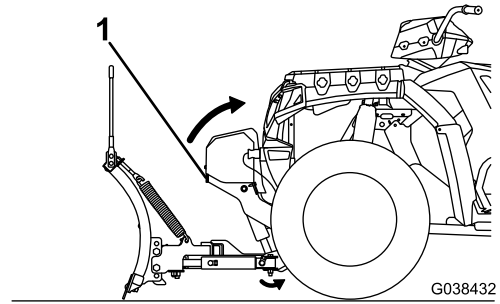

Figure 19
6. Using the coupler handle, push the coupler tower upward until the coupler spring pins snap in (Figure 19).
8. Pull the kickstand handle outward and raise the kickstand (Figure 19).